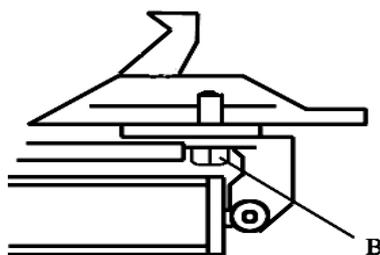

Fig 16
**Note:** After the first 20 days of use, retighten the jaws with tightening screws (B) on the Turntable (Fig 16)